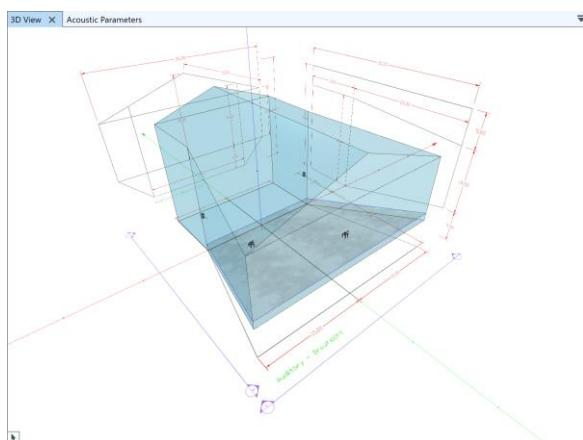

Figure 4.14 Central Wide Perspective.
- In **CENTRAL WIDE** mode, the central perspective and a wide viewing angle will be used. This typically corresponds to situations where the viewer is close to the building or inside the room (Figure 4.14).